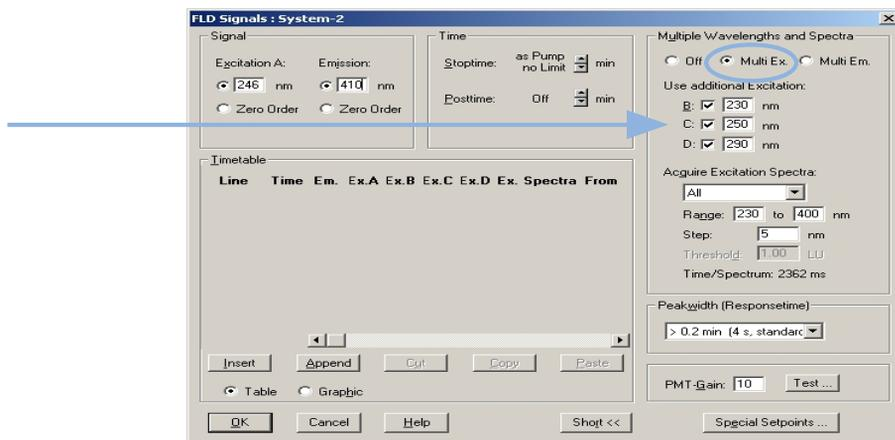

Figure 27 FLD Parameters
- 2 Set the FLD setpoints according to Figure 27 on page 73.